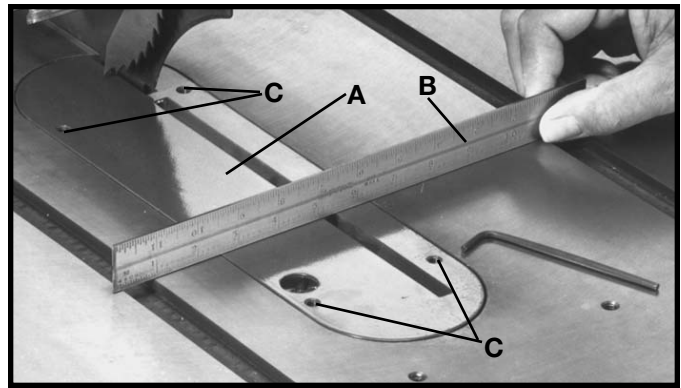

Fig. 46
Place a straight edge (B) across the table at both ends of the table insert as shown in Fig. 46. The table insert (A) should always be level with the table. If an adjustment is necessary, turn the adjusting screws (C), as needed, with allen wrench supplied. **NOTE: THE MITER GAGE HANDLE CAN BE USED TO STORE THE ALLEN WRENCHES WHEN NOT IN USE. REMOVE THE TOP CAP OF THE MITER GAGE HANDLE FOR THE ALLEN WRENCH STORAGE COMPARTMENT.**